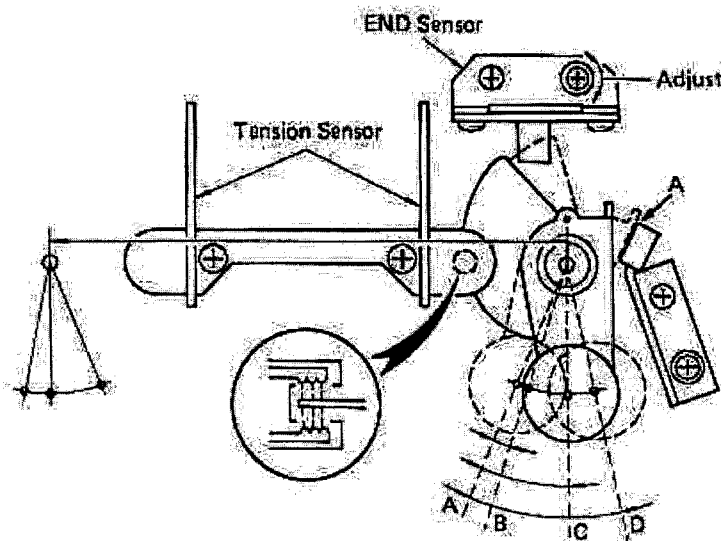
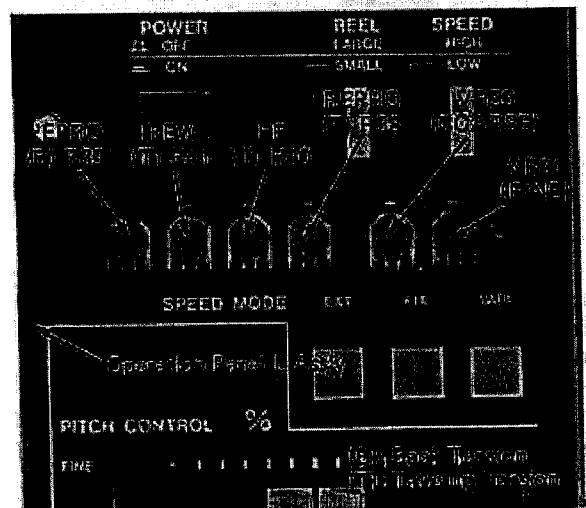

Fig. 9-4-5. Moving Position of The Tension Arm Ass'y
Fig. 9-4-6: Tape Tension Servo and Tape Speed Adjustment Pots
The movement of the tension arm between A – C in Fig. 9-4-5 develops voltage at TP-1 (left tension sensor output voltage) and TP-2 (right tension sensor output voltage). (Refer to Fig. 9-4-8 for the test point locations.)
1. Remove the front panel assembly as described in 9-3-1 (C).
3. With the deck in the edit mode, confirm that both tension arms are near the C position shown in Fig. 9-4-5 — about  $22.5^\circ$  from the free position A.
4. If adjustment of the angle is necessary, adjust by adjusting the trimmer resistor located on the upper part of the Operation Panel L assembly. Refer to Fig. 9-4-6.
1. Load a tape and run it in fast forward. Check that the tension arm on the take-up side stabilizes at the C position shown in Fig. 9-4-5. If it does not, correct it by adjusting FF(T), R40 shown in Fig. 9-4-6. Then, run the tape in rewind and check, as in fast forward, that the tension arm on the take-up side stabilizes at C. If it does not, adjust REW(T), R41. If a tentelometer is used to measure tape tension, run tape in the Spooling mode, then stop the supply reel by hand and read the meter at A (in forward spooling) and B (in reverse spooling) shown in Fig. 3-4-7. The measurement should be read at both points. Adjustment pots to be used are the same as in the fast forward and rewind modes:
Adjust the mounting position of the arm stopper so that it reaches point (a) in Fig. 9-4-9 with tape unloaded (no tension applied to the tension arm: i.e., the right tension arm rests at point A in Fig. 9-4-5.).
- b. Connect the frequency counter to TP6 and GND on the Control PCB Ass'y, Fig. 9-4-8. Then, while keeping an eye on the frequency counter, adjust VR33 (COARSE) shown in Fig. 9-4-6 until a 9,600 Hz  $\pm 15$  Hz reading is obtained, and then fine-adjust VR31 (FINE) to 9,600 Hz.